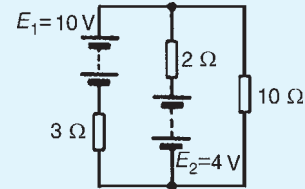
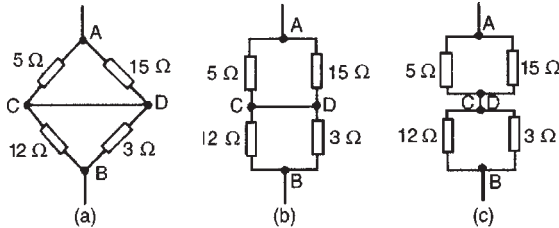

Figure 13.27
Figure 13.35
- 3. Use the superposition theorem to find the current in each branch of the network shown in Fig. 13.27.
- (viii) In Fig. 13.35(a), to find the equivalent resistance across AB the circuit may be redrawn as in Figs 13.35(b) and (c). From Fig. 13.27(c), the equivalent resistance across AB